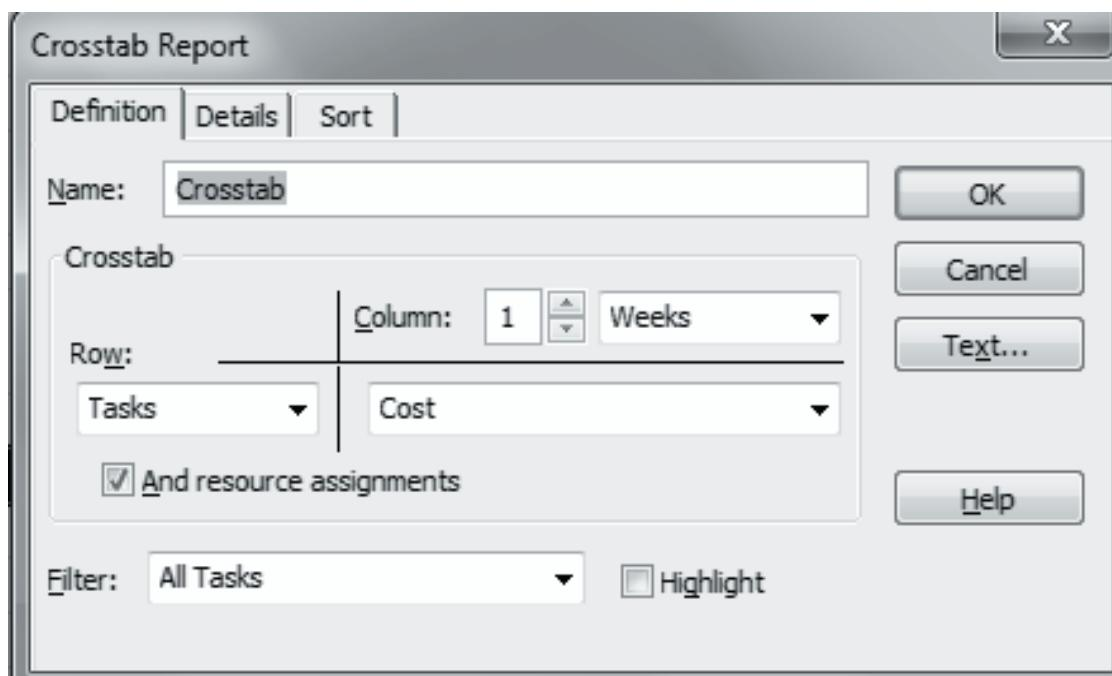

Figure 13.10: Crosstab Report Dialog Box
4. Click **Edit...** to display **Crosstab Report** dialog box as shown in figure 13.10.